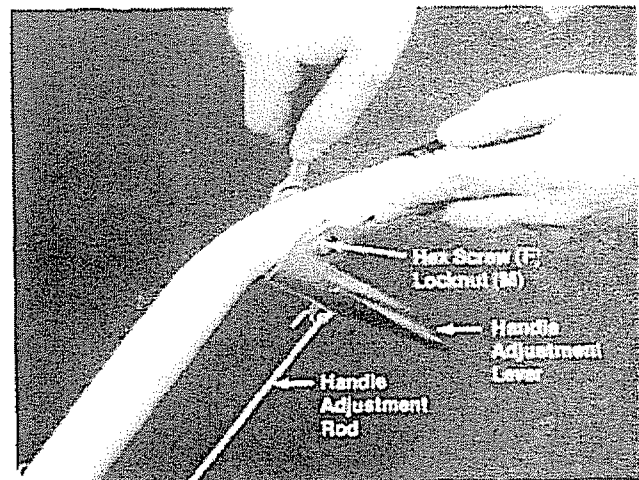

FIGURE 12.
- K. To assemble the handle adjustment lever, hook handle adjustment rod (already on handle) into lever. Hook to the outside. See figure 12.
- L. Place handle adjustment lever in place on handle and secure with hex screw (F) and locknut (M). See figure 12. Do not over tighten handle adjustment lever must pivot freely.